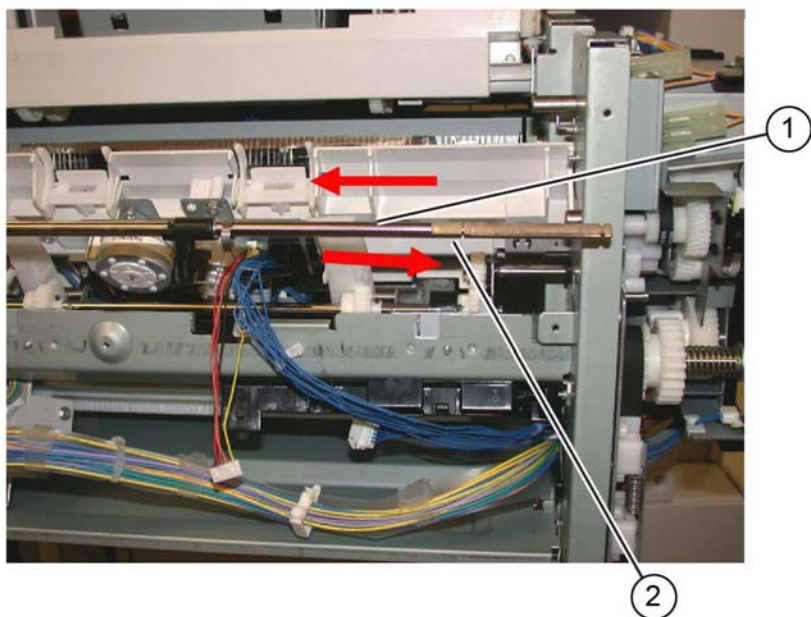

Figure 9 Set clamp shaft removal
16. Remove the set clamp shaft, Figure 9:
- a. Slide the shaft toward the front (1).
- b. Slide the shaft toward the rear, then remove (2).